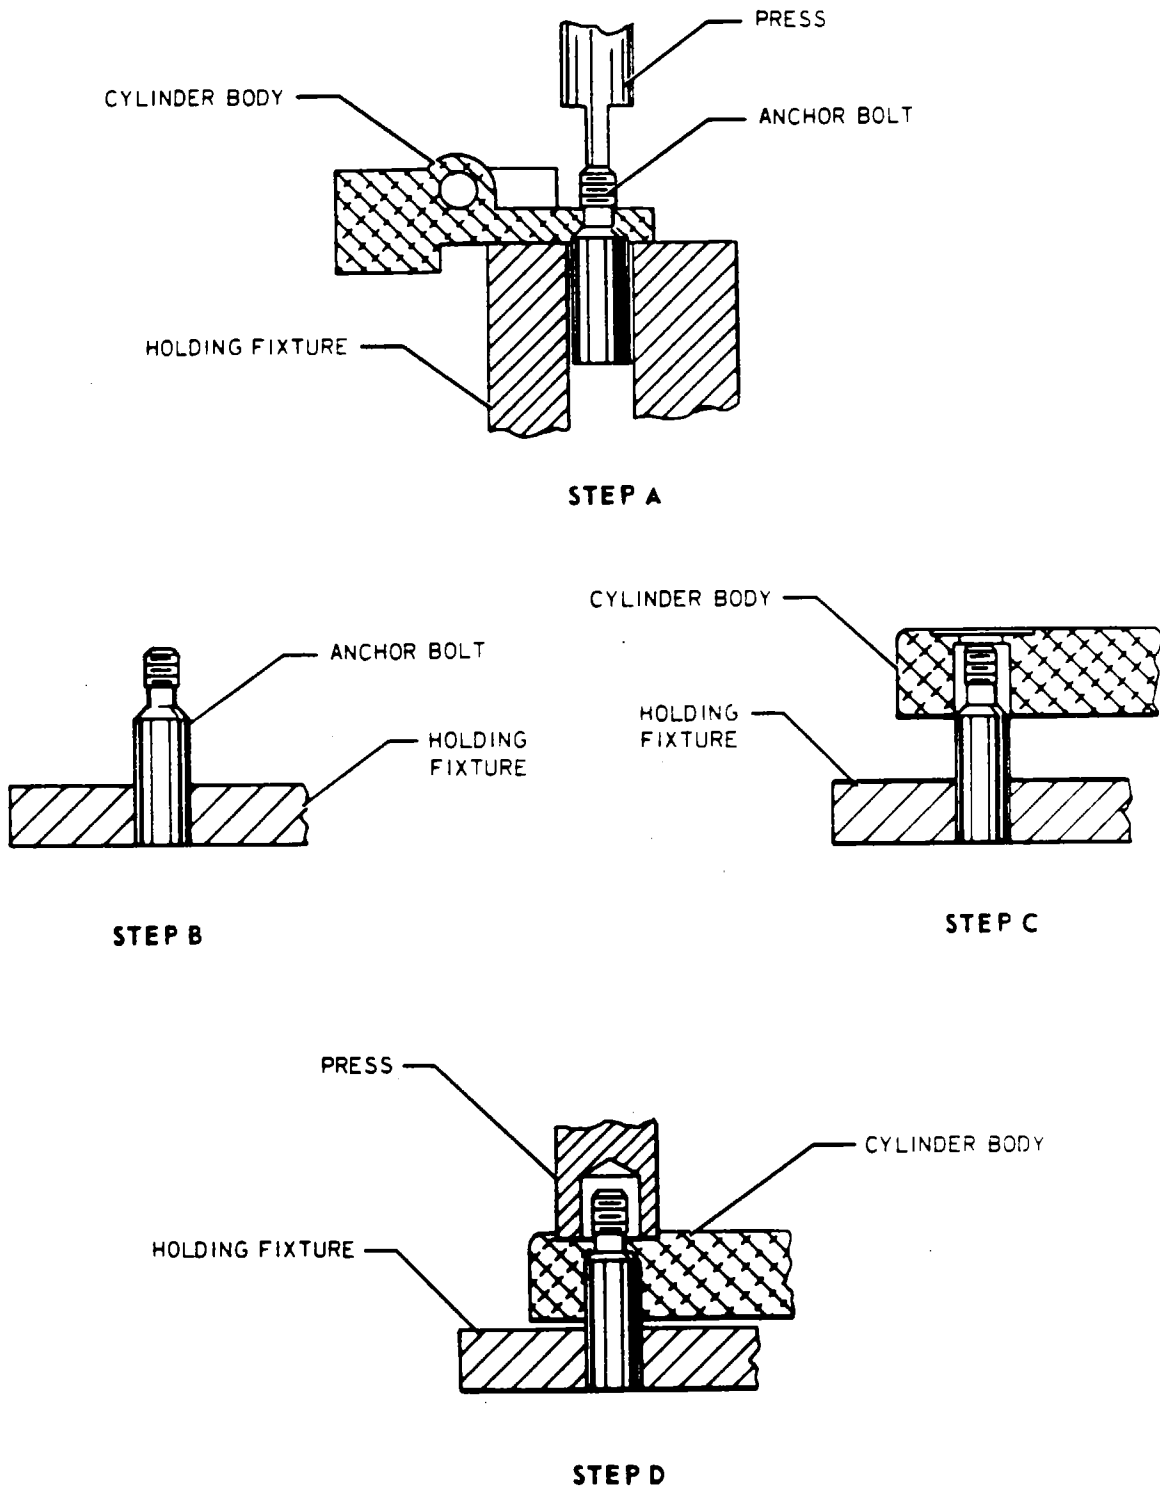

Figure 32-19. Removal and Installation of Anchor Bolts
A. Position cylinder assembly on a holding fixture. (Refer to Figure 32-19. Step A.)
- A. Support anchor bolt in a holding fixture. (Refer to Figure 32-19, Step B.)
- B. Align cylinder body over anchor bolt. (Refer to Figure 32-19, Step C.)
- C. Using a suitable arbor press, apply pressure on the spot face directly over the anchor bolt. (Refer to Figure 32-19, Step D.)